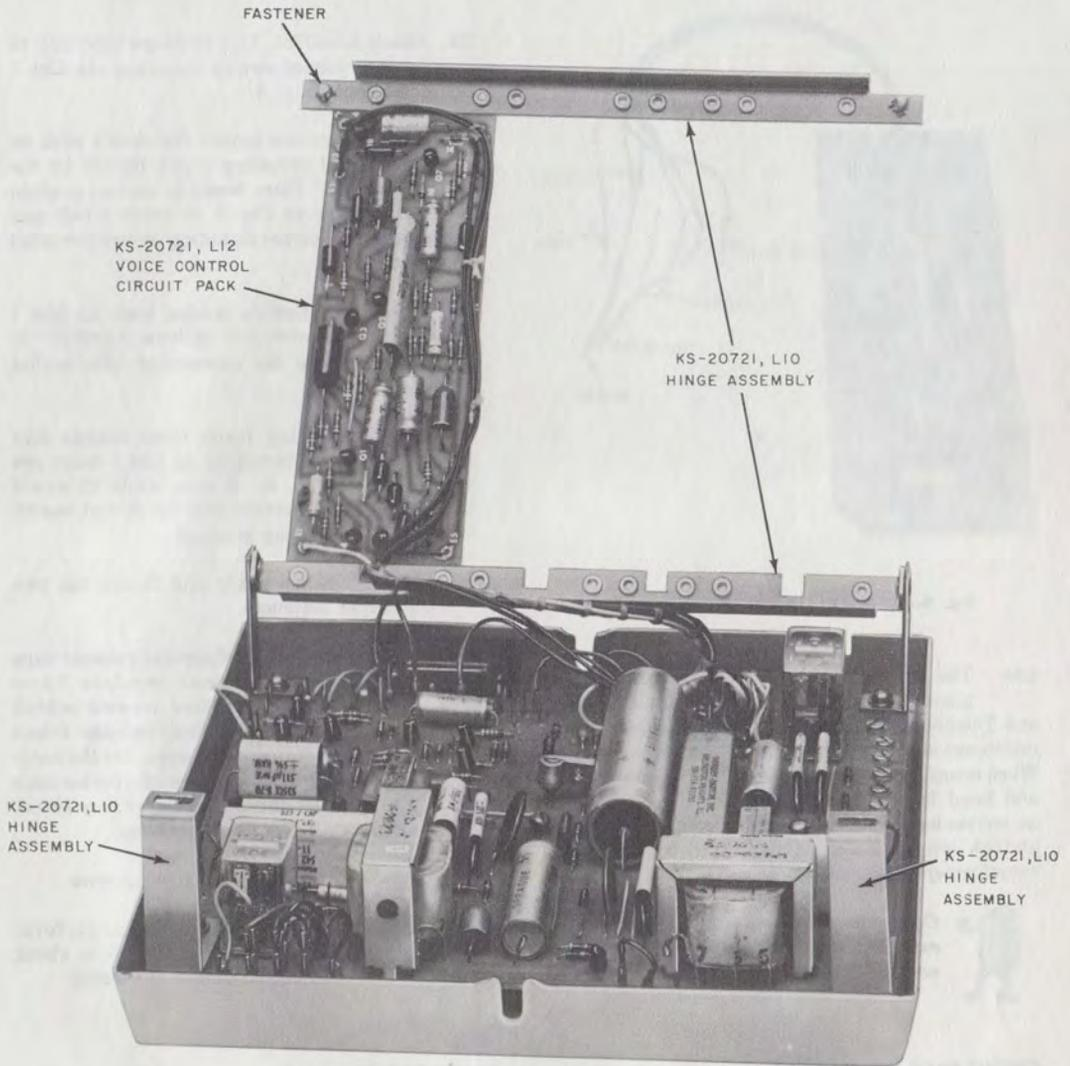

Fig. 3—KS-20721, List 2 Station Coupler With Optional Circuit Pack
- Assembly, Hinge, KS-20721, L10 (Fig. 3) (if required for field installation)
2.03 The KS-20721, List 2 station coupler (Fig. 3) consists of a KS-20721, List 1 station coupler with a KS-20721, List 10 hinge assembly and KS-20721, List 12 voice control, factory installed.
- (1) Remove the cover from the station coupler using the KS-19192, List 1 tool or screwdriver.
- (2) Attach KS-20721, List 10 hinge assembly to the four corner screws mounting the List 1 board. Refer to Fig. 3.
- (3) The installer can mount the circuit pack on the internal mounting frame formed by the hinge assembly. Place board in correct position on frame (refer to Fig. 3 or cover label) and secure with four corner mounting screws furnished with circuit pack.
- (4) Connect the flexible jumper leads on List 1 board to provide the options called for in Table A by using the connecting information given in Table B.